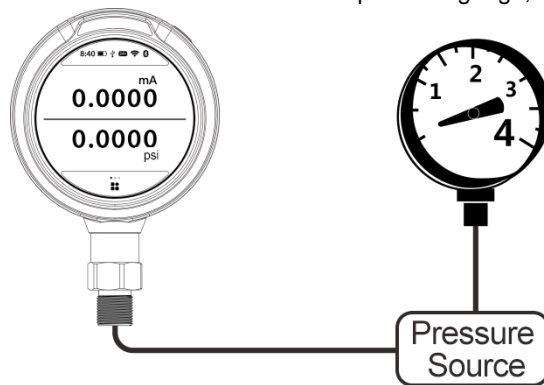

Figure 13 Calibrate Dial Pressure Gauge
(1) Refer to Figure 13, connect the calibrator with the dial pressure gauge;